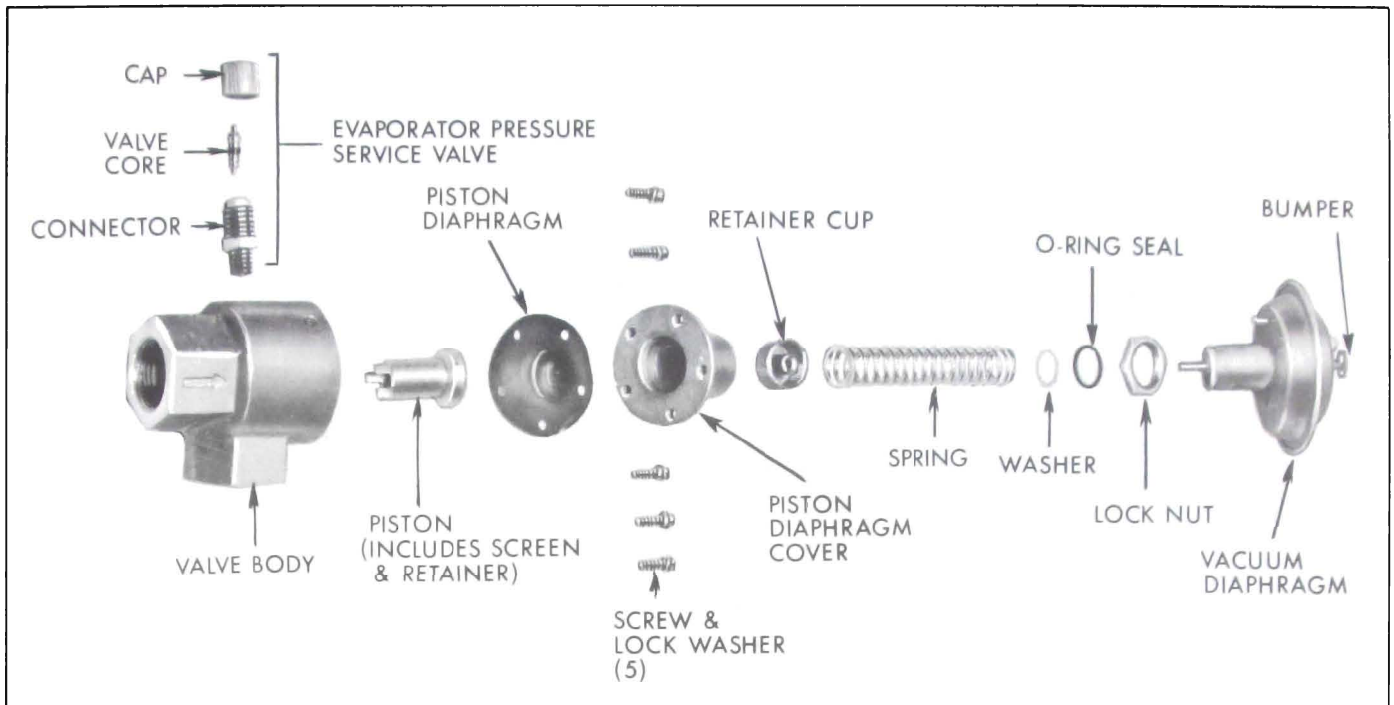

Figure 11-68—Exploded View of Suction Throttle Valve
1. With STV removed from car, loosen lock nut on vacuum diaphragm and turn diaphragm assembly out of cover. Discard O-ring on sleeve of diaphragm. See Figure 11-68.